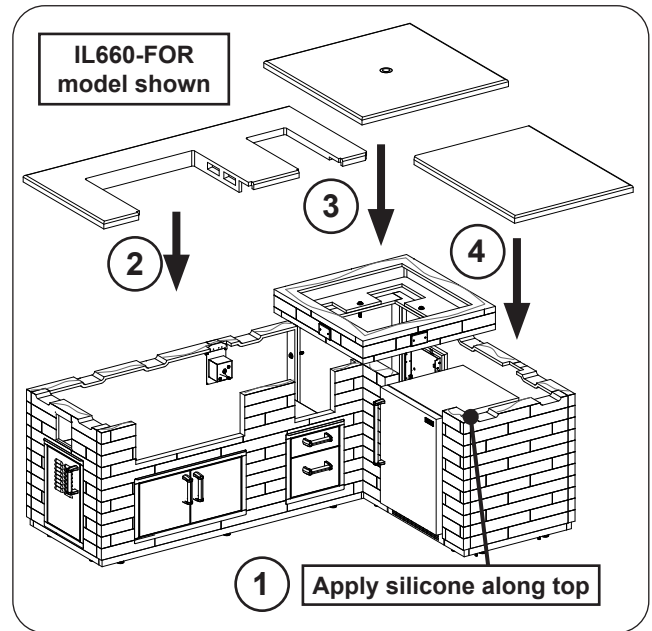

Fig. 18-1 Place countertop
1. Apply silicone along the top of all 3 island sections (see Fig. 18-1, step 1).
2. Place the countertop left piece onto the island as shown in Fig. 18-1, step 2. (Be sure to align the cutouts in the countertop with the openings in the front wall.)
3. Place the countertop center piece onto the island as shown in Fig. 18-1, step 3.
4. Place the countertop right piece onto the island as shown in Fig. 18-1, step 4.